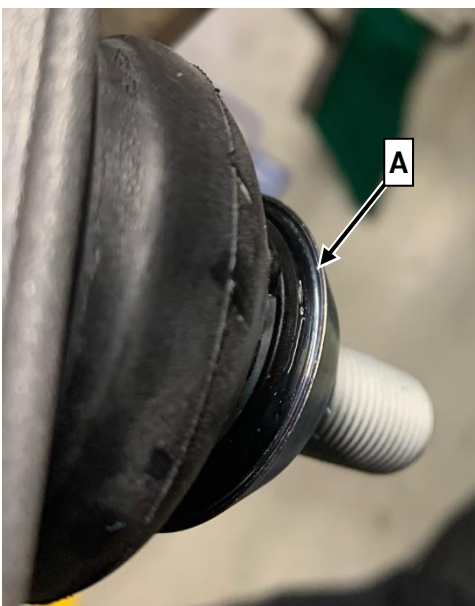

Figure 2
3. Check spherical cap in area (A, Figure 2).
- a. If groove (B, Figure 2 or 3) is **not** present : **Carry out work procedure .**
- b. If groove (B, Figure 2 or 3) is present:**End measure.**